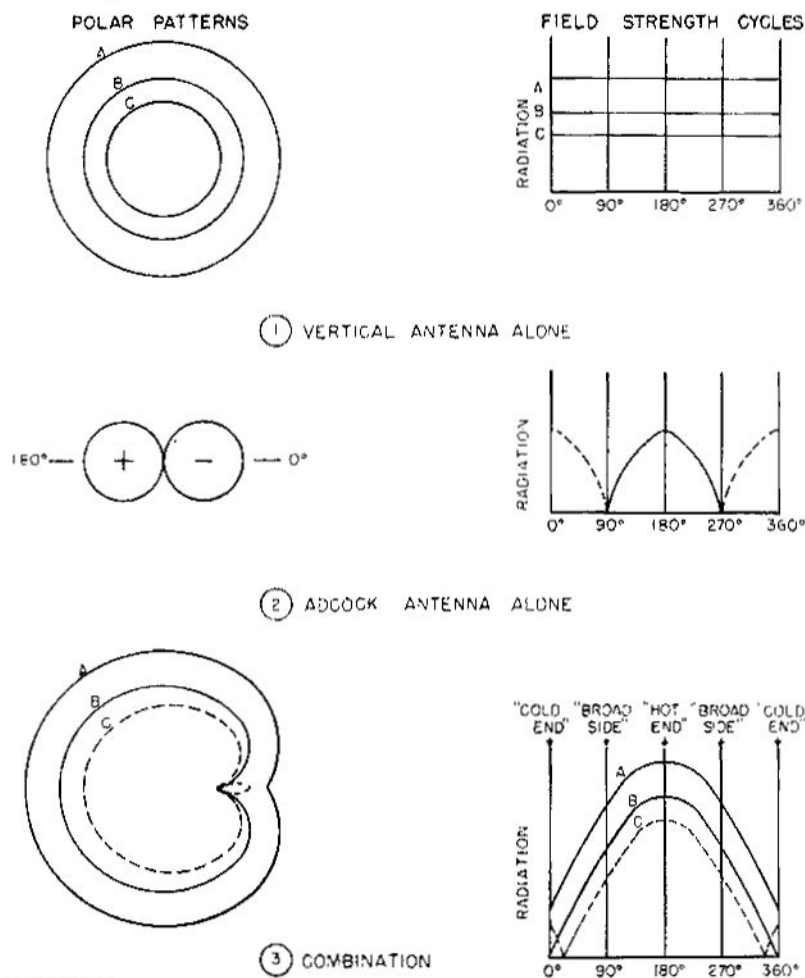

Figure 39. Antenna pattern.
b. The beacon antenna system combines a vertical antenna, which has a circular or non-directional radiation pattern and an H type Adcock antenna, which has a figure eight radiation pattern, to produce a cardioid, or heart shaped radiation pattern (③ fig. 39).
c. A perfect cardioid pattern would be produced if the maximum radiation from the vertical and Adcock were equal as shown by curve B (③ fig. 39). In this case the minimum of the combined radiation would be zero. In practice, the vertical antenna is adjusted to radiate a little more strongly than the Adcock. If the Adcock radiation were the stronger, as indicated by curve C, ③ figure 3. the pattern would be a lop-sided figure 8 with two minimums close together.